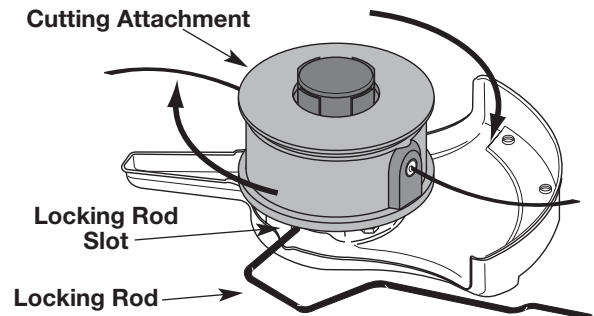

Fig. 9
3. While holding the locking rod, remove the cutting attachment by turning it clockwise off of the output shaft (Fig. 9). Store the cutting attachment for future use.